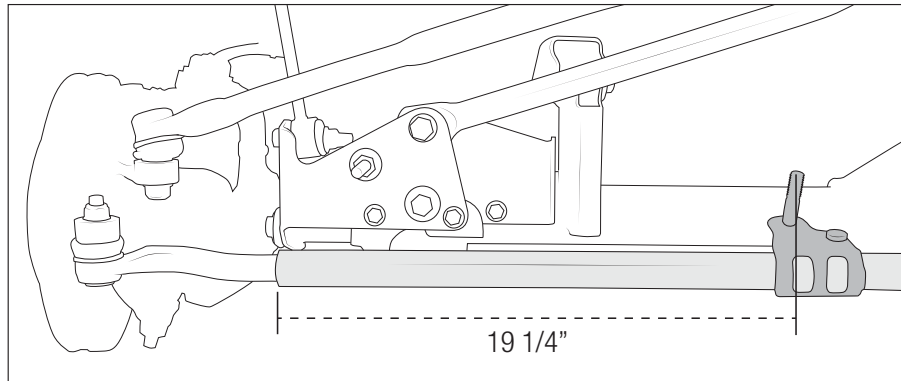

Figure 28
- A. To position the tie rod bracket properly, measure 19 1/4" from the edge of the tie rod tube to the center of the stud as shown. (Fig. 28) Rotate the tie rod bracket until the stud is pointing just forward of straight up. Tighten the mounting bracket at this location. After the mounting bracket is tight, tighten the factory steering stabilizer to bracket nut, torquing to 37 ft-lbs.